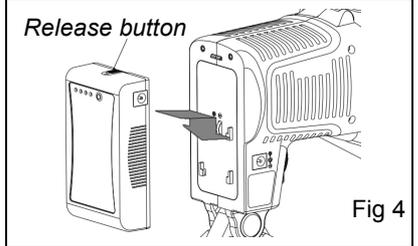

Fig 4
- ③ Align a fully charged S-8040 battery to the DV mount slot to same side, and press tightly in. Slide the battery downward to snap together. See Fig 4